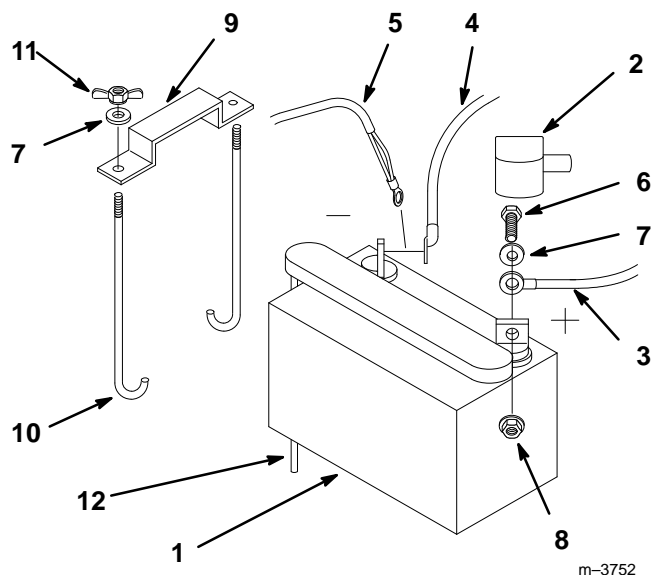

Figure 7
- Position battery in tray with terminal posts toward the engine (Fig. 7).
- Secure cables with (2) 1/4 x 3/4" (19 mm) bolts 1/4" washers and 1/4" locknuts (Fig. 7).
- Secure battery with J-bolts, hold down clamp and (2) 1/4" washers and (2) 1/4" wing nuts (Fig. 7).